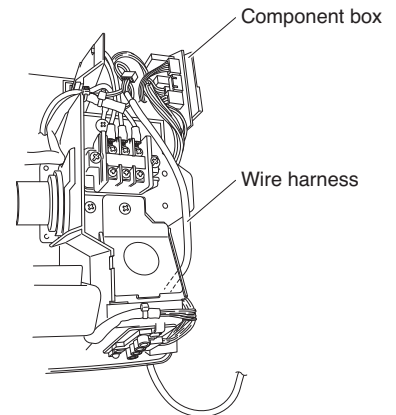

Fig. 4a
- (7) Feed the wire harness that was included in the wired remote controller package into the right lower rear of the unit and route it to the component box. (Fig. 4a)
- (6) Feed the wire harness that was included in the wired remote controller package into the right lower rear of the unit. (Fig. 4a)